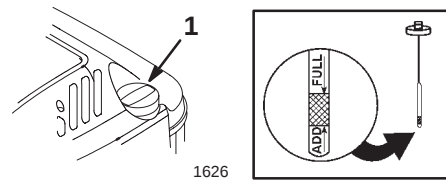

Figure 5
Before each use, ensure that the oil level is between the Add and the Full marks on the dipstick (Fig. 5).
- Clean around the dipstick (Fig. 5).
- Read the oil level on the dipstick (Fig. 5).